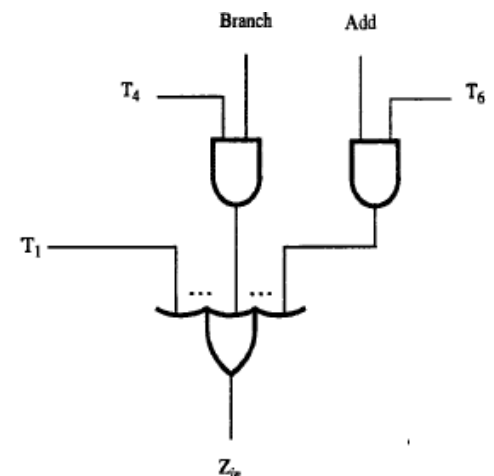

Figure 7.12 Generation of the Z_{in} control signal
- For example (Figure 7.12), $Z_{in} = T_1 + T_6.ADD + T_4.BR$